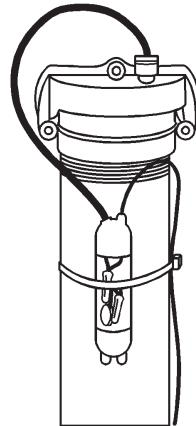

Figure 13. Direct Burial Splice with Cable
13. Wait at least five minutes, then use the large cable tie to mount the splice to the riser pipe [Figure 13].